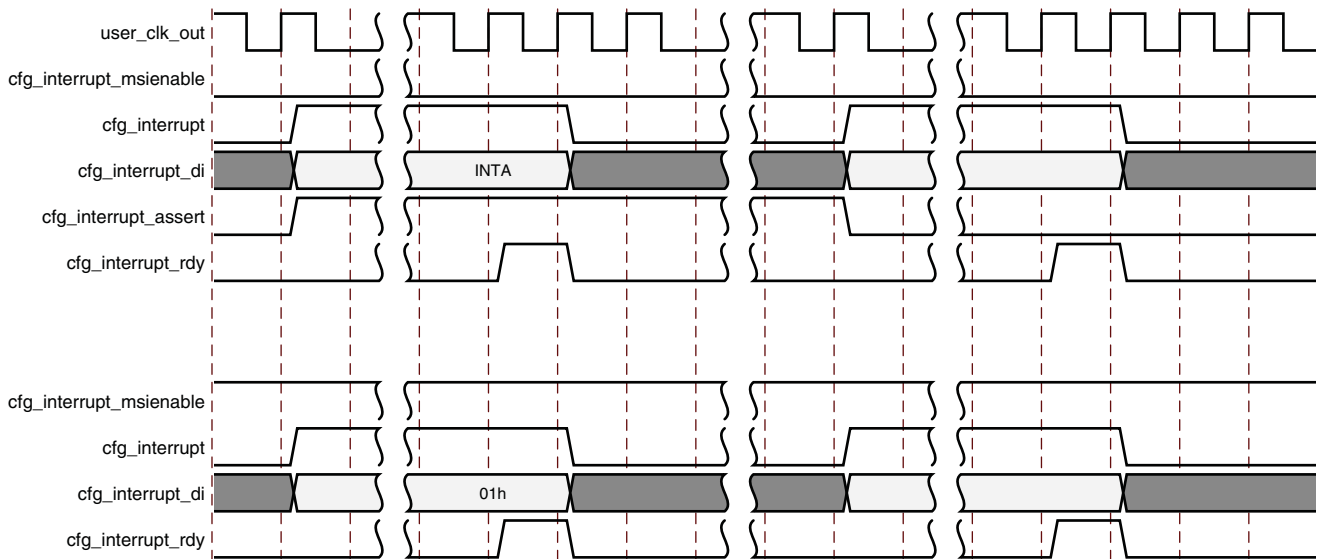

Figure 3-68: Requesting Interrupt Service: MSI and Legacy Mode
- As shown in Figure 3-68, the User Application first asserts `cfg_interrupt` and `cfg_interrupt_assert` to assert the interrupt. The User Application should select a specific interrupt (INTA) using `cfg_interrupt_di[7:0]` as shown in Table 3-46.
- As shown in Figure 3-68, the User Application first asserts `cfg_interrupt`. Additionally the User Application supplies a value on `cfg_interrupt_di[7:0]` if Multi-Vector MSI is enabled.